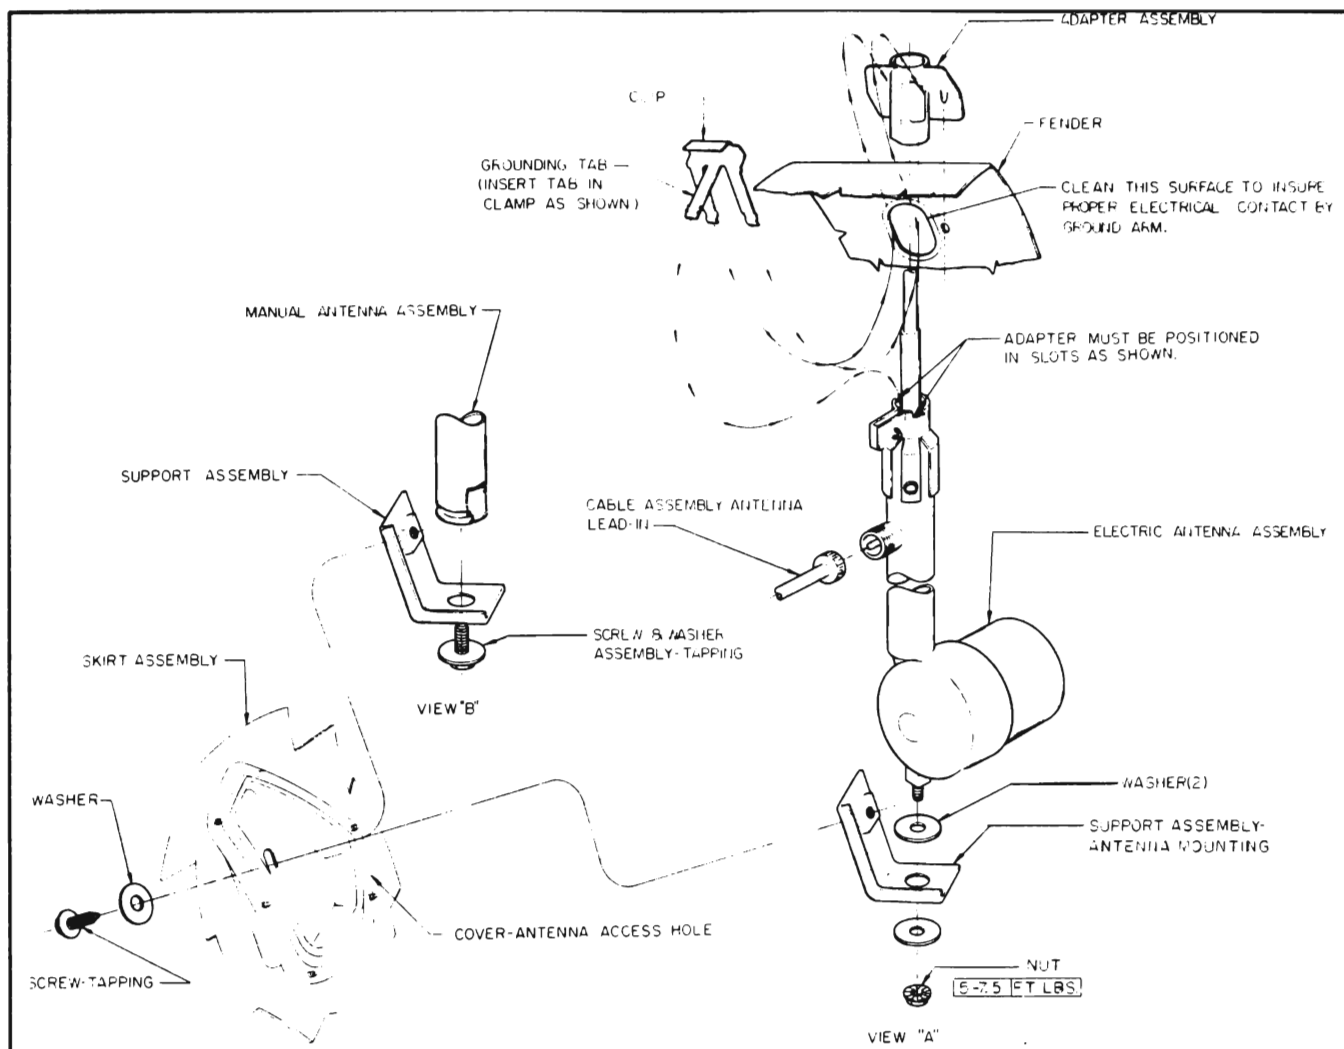

Figure 11-10—Antenna Installation—4700 Series
- (b) On 4700 Series, install antenna into keyed position in adapter and tighten pinch bolt. Be sure grounding tab of clip is placed between the adapter and clamp. See Figure 11-10.